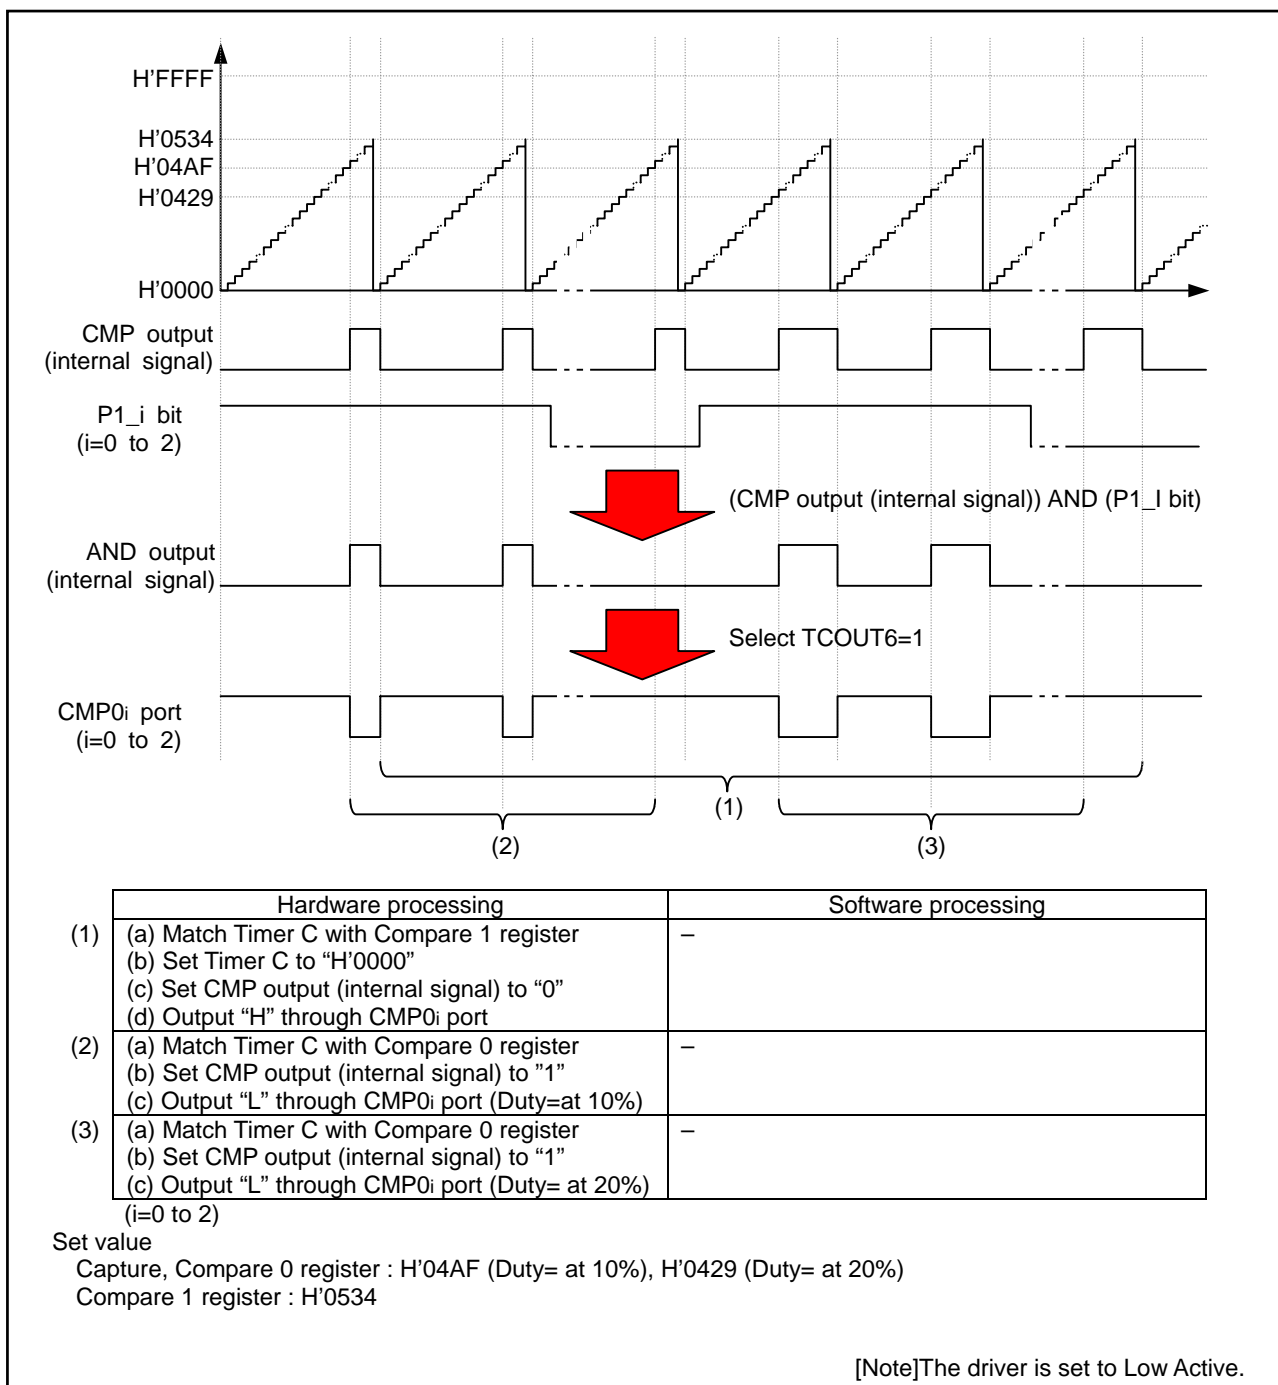
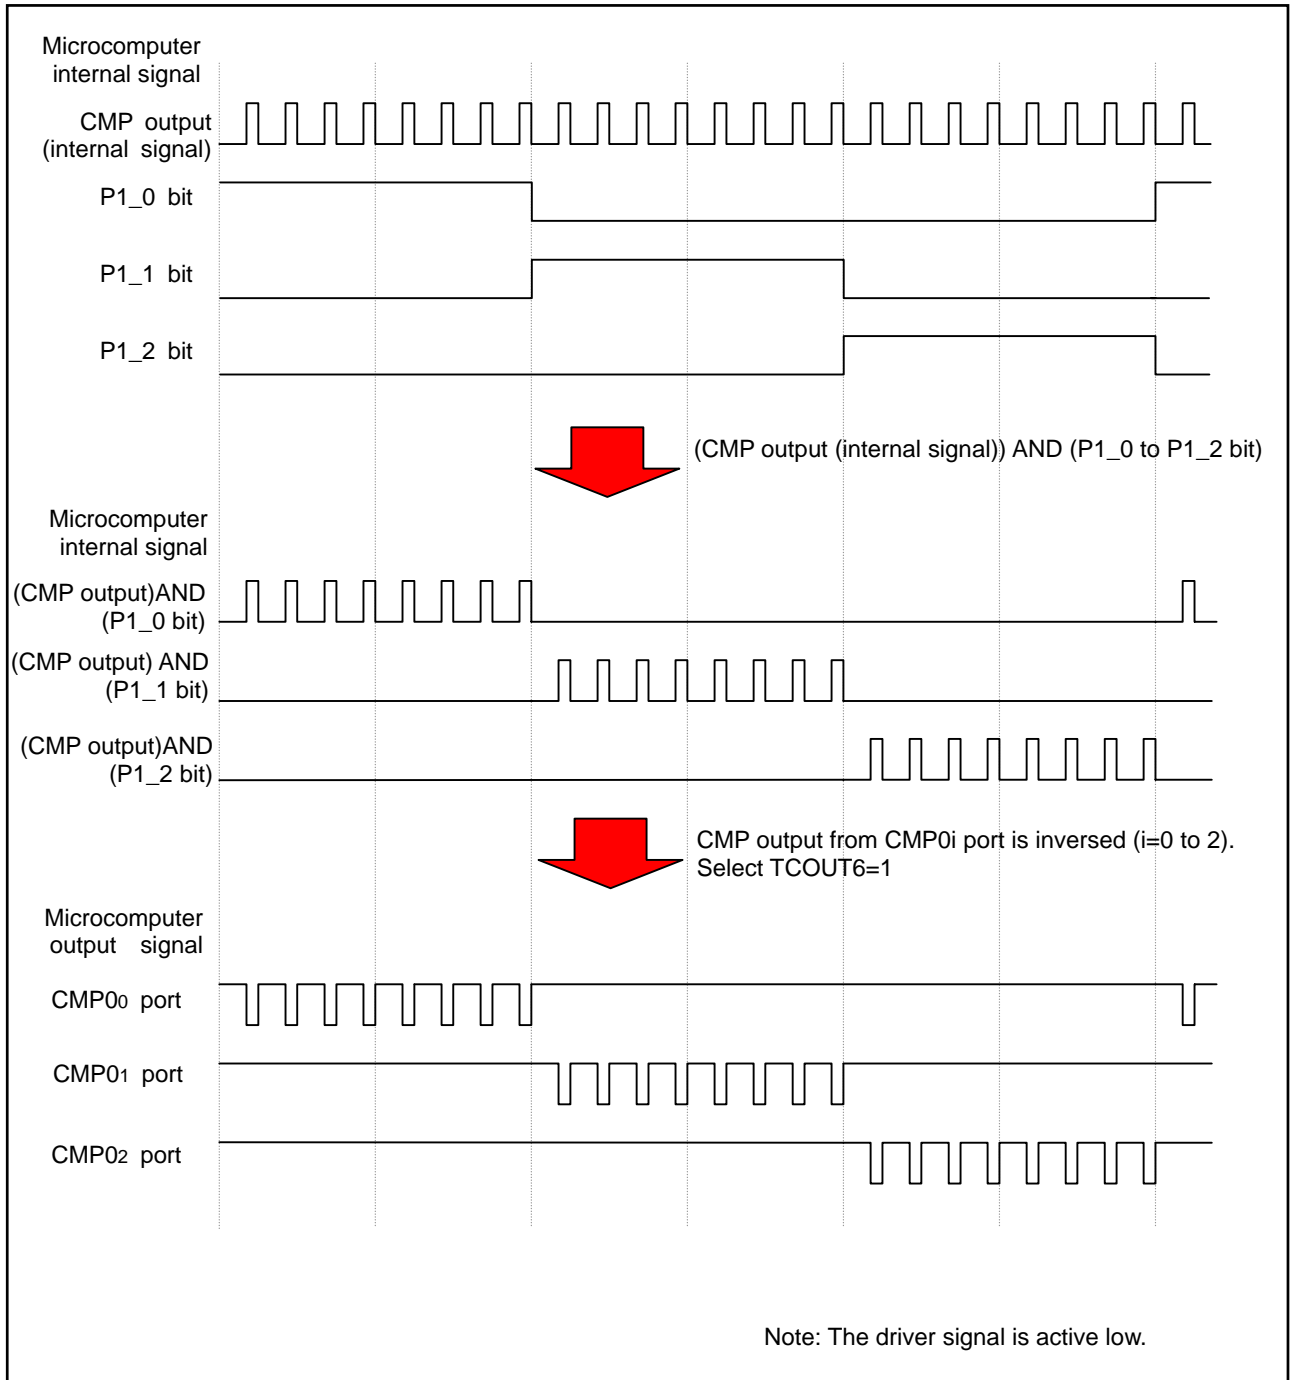

Figure 3.5 Output of the Chopping Waveform : Principle of Operation
Figure 3.6 A relationship between the internal signal and the output waveform
3. In this sample task, chopping control is applied when the driver transistors on the positive-phase side are turned on. A chopping waveform generated by the output compare is output on CMP00 to CMP02. Figure 3.5 shows the principle of operation for output of the chopping waveform. Figure 3.6 shows a relationship between the internal signal and the output waveform.